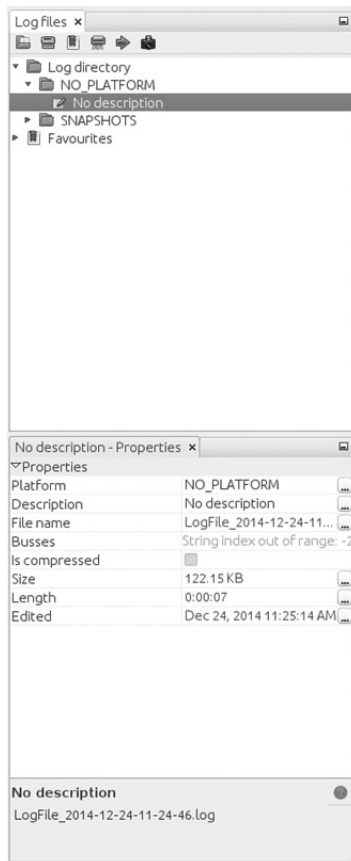

Figure 5-5: Right pane of Log files tab settings
To record CAN packets with Kayak, first click the Play button in the Log files tab ❶. Then drag one or more buses from the Projects pane to the Busses field of the LogOutput Window tab ❷. Press the Record and Stop buttons at the bottom of the LogOutput window ❸ to start or stop recording. Once your packet capture is complete, the logging should show in the Log Directory drop-down menu (see Figure 5-5).
Other than some metadata (PLATFORM, DESCRIPTION, and DEVICE\_ALIAS), the log is pretty much the same as the one captured by the can-utils package: ❶ is the timestamp, ❷ is your bus, and ❸ is your arbitration ID and data separated by a # symbol. To play back the capture, right-click the **Log Description** in the right panel, and open the recording (see Figure 5-5).